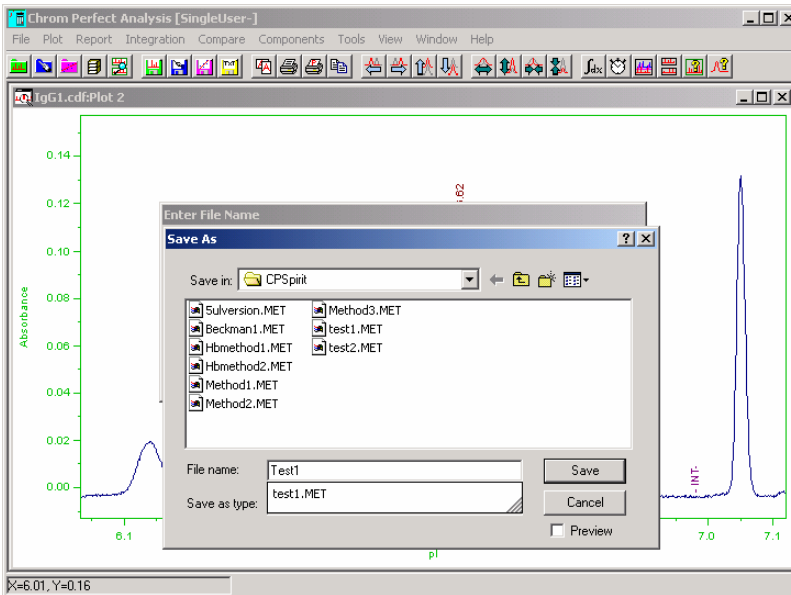

Figure A-23: Save As
- Enter the name of the method and click **Save As** button (Figure A-23).